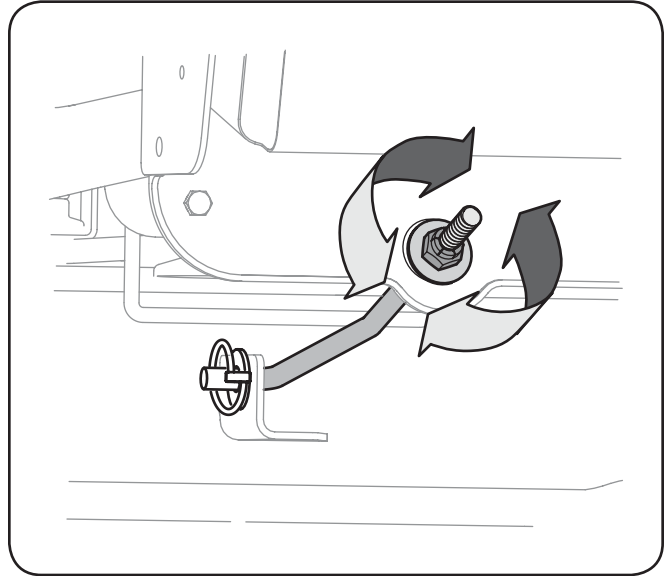

Figure 6-4
2. To *lower* the front of the deck, loosen (thread outward) the lock nut, away from the front hanger bracket. See Fig. 6-4.